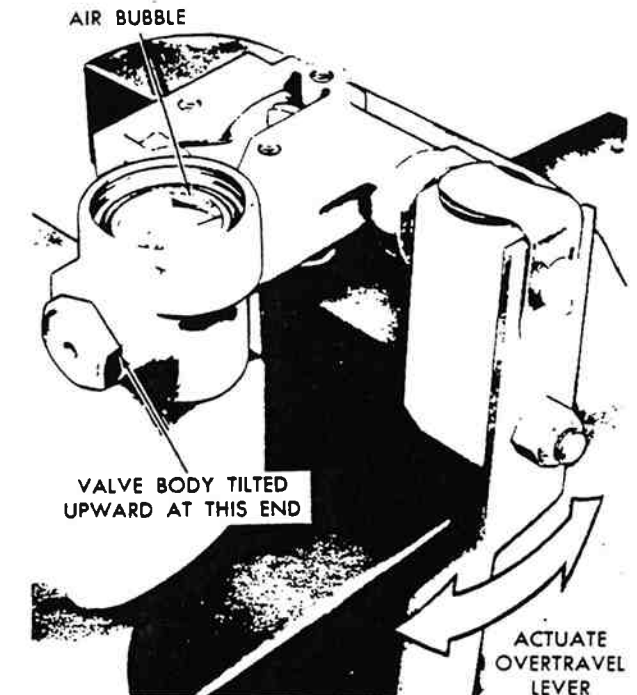
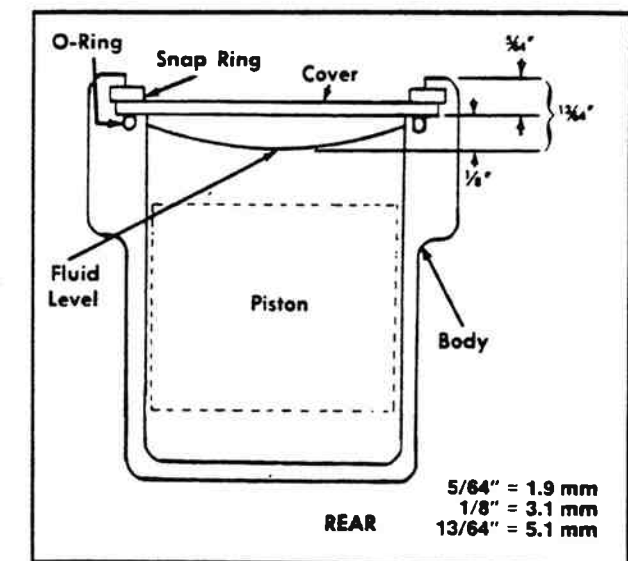

Figure 12-12. Venting Air From Silicone Fluid.
Figure 12-13. Measuring Silicone Fluid Level.
- Pour 5.5 CC + 0.25 CC of Silicone fluid (750 centistokes Viscosity at 25°C) into delay piston chamber. With valve body tilted slightly as shown in Figure 12-12 carefully operate overtravel lever fore and aft to vent air from fluid. When all air has been expelled from piston pin cavity, check fluid level using depth gauge as shown in Figure 12-13.